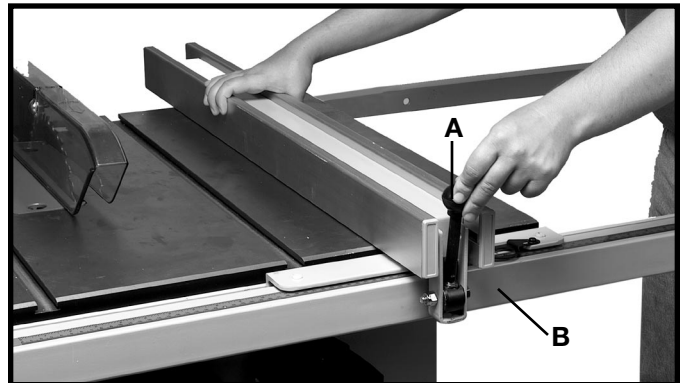

Fig. 9
1. Place the fence on the guide tube, lift up clamp (A) Fig. 9, and place the fence over the rear guide rail and gently push fence onto guide tube (B) Fig. 9. **NOTE: MAKE SURE THAT THE CLIP ON THE BACK OF THE FENCE ENGAGES THE REAR GUIDE RAIL.**